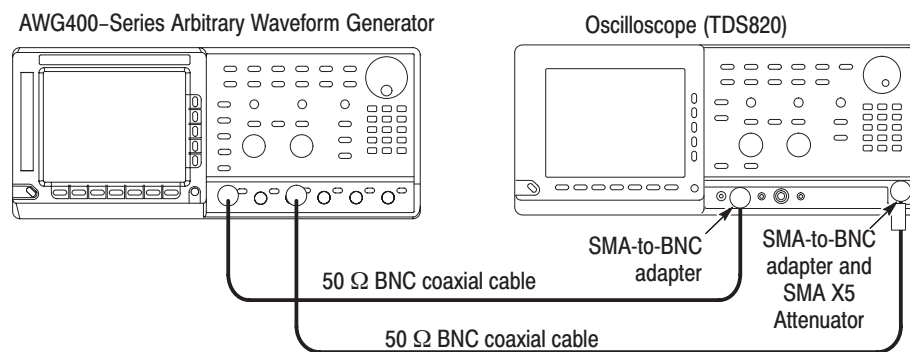

Figure 5-7: Channel skew test hookup
- a. Use the 50 Ω BNC coaxial cables and SMA-BNC adapter to connect the AWG400-Series CH1 output to the oscilloscope CH1 input connector; use the SMA-BNC adapter and SMA X5 Attenuator to connect the AWG400-Series CH2 output to the oscilloscope TRIGGER INPUT connector (see Figure 5-7).